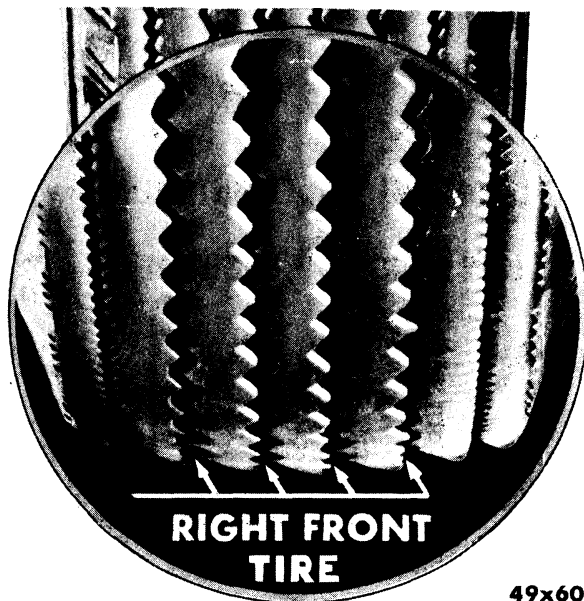

Fig. 30—Toe-In Wear
c. Refer to Figures 30 and 31. Excessive toe-in or toe-out of front wheels affects the rate of tire wear more than any other factor. For corrective measures, refer to Section 1, Front Wheel Suspension.